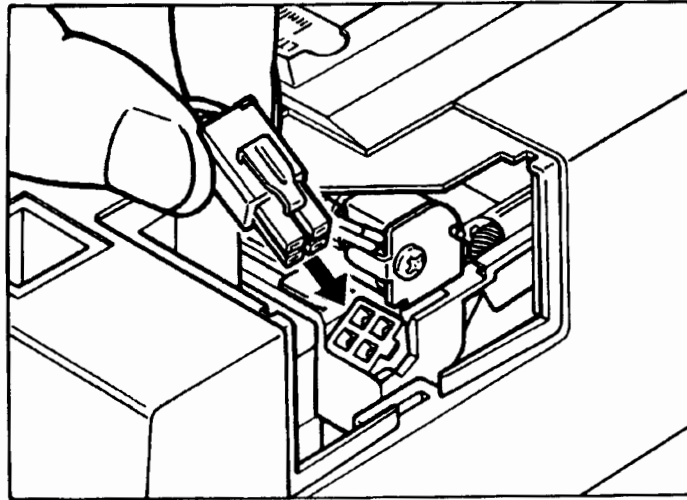

Figure C-16. Plugging In the Lamp Connector
15. Plug in the lamp connector by depressing the side clip and plugging it into the socket. See figure C-16.